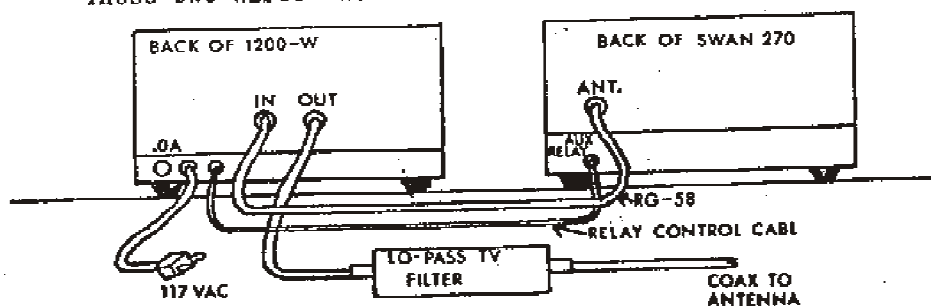

FIG. 3 REAR VIEW- TYPICAL INSTALLATION USING SWAN 270
- (a) Refer to the pictorial in Fig. 3 when making the installation. Connect a short length of coaxial cable (RG-58 or RG 8) from the transceiver or exciter to the coaxial input jack on the 1200-W. A PL-259 type connector is required at the amplifier end of the cable. This cable should be as short as practical and preferable not more than 5 feet long.